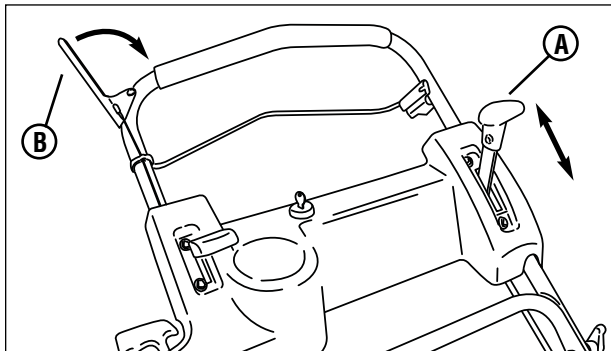

Figure 5: Mower drive controls
2. Move the ground speed control (**A, Figure 5**) to the desired speed position.